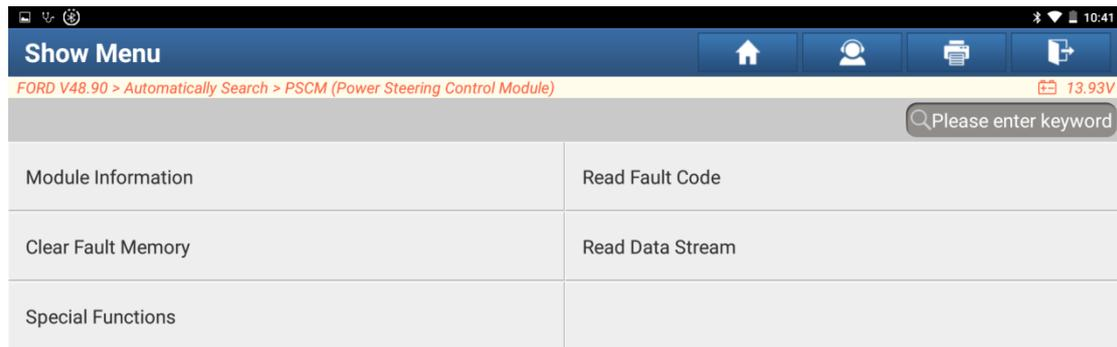

Figure C17
- Return to the page, click Enter to access PSCM (Power Steering Control Module), and choose Clear Fault Memory. See Figure C17.